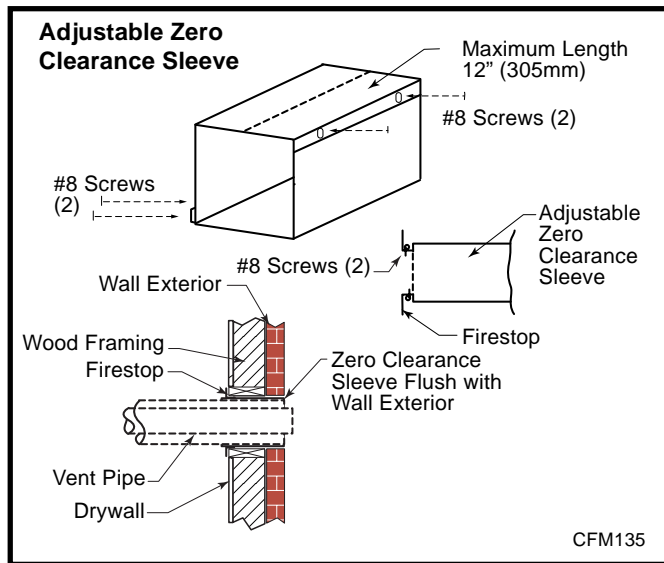

Fig. 23 Locate vent opening on wall.
Measure wall thickness and cut adjustable zero clearance sleeve parts to proper length (MAXIMUM 12" / 305mm). (Fig. 23) Adjust sleeve to minimum (93/8" x 93/8" and attach to firestop with #8 sheet metal screws (supplied). Assemble sleeve and attach to firestop with #8 sheet metal screws (supplied). Install firestop assembly.
1. Establish vent hole through the wall. (Fig. 23)